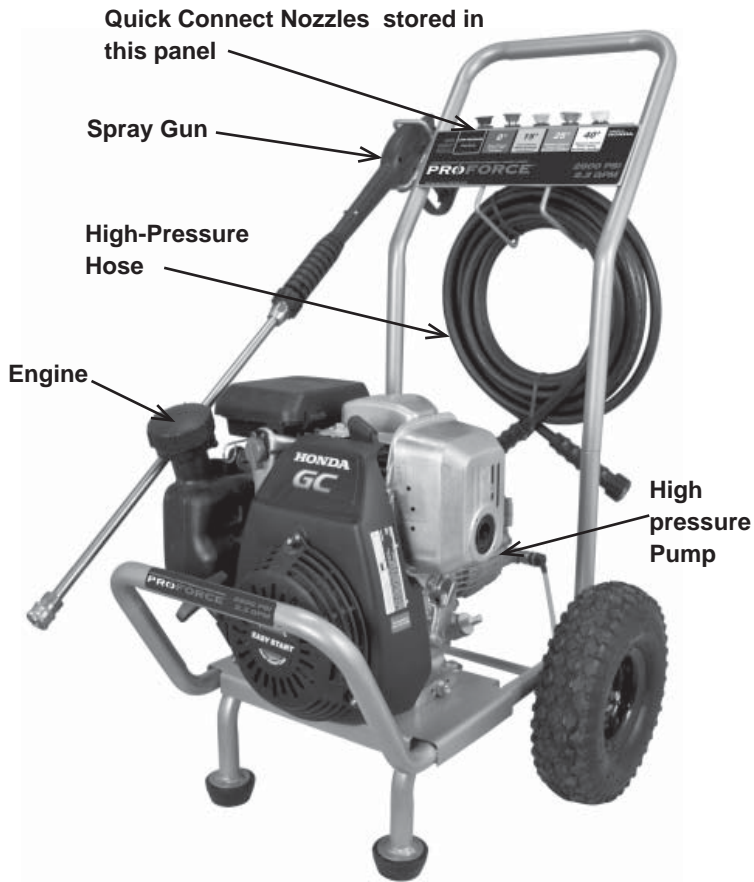

FIG. 5
8. Attach high-pressure hose to gun. Tighten securely. (Fig. 5)